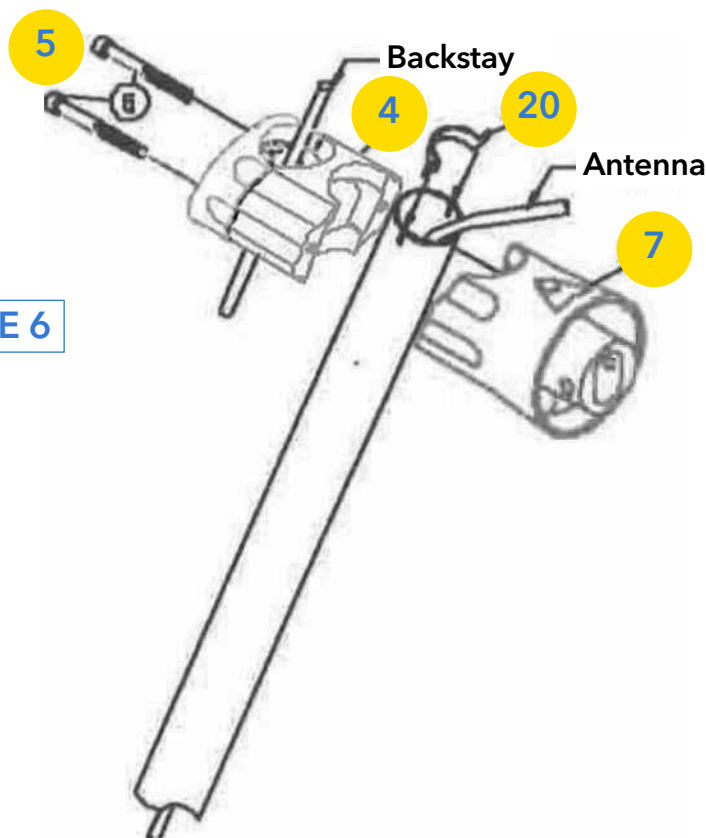

FIGURE 6
- ▶ Feed the radar antenna cable through the bottom of the Mounting Pole (19), or through the Grommet in the lower slot and exit either from the Grommet in the upper slot or through the top of the Mounting Pole. The upper wire slot exit should be on the side OPPOSITE the Damper Assembly.
- ▶ Insert the Anti-rotation Clip (20) into the slots of the Mounting Pole (19), (Figure 6).
- ▶ Remove the Allen Cap Screw (6) from the Pivot Base Cone (7) and place the Cone aside. Attach the Mounting Pole (19) to the Pole Base (9) using the Clevis Pin (10), and the Cotter Pin (12). Using a step ladder in the cockpit, slide the Pivot Base Assembly up the backstay and re-assemble the Pivot Base Cone. The Anti-rotation Clip tabs should be clamped between the Pivot Base Cone (7) and the Mid Spacer (4). Remove each clamping screw one at a time, apply Loctite, and reinstall each screw, alternately tightening each one, so that the gap between the three parts of the Pivot Damper Assembly are equally spaced. (Figure 6).